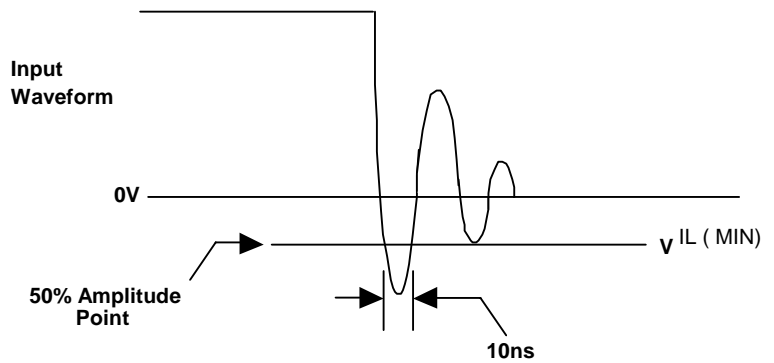

Figure 11: Input Signal Waveform
- 1.0 Volts for a duration of 10 ns measured at the 50% amplitude points for Input-only lines (see Figure 11 on page 27).